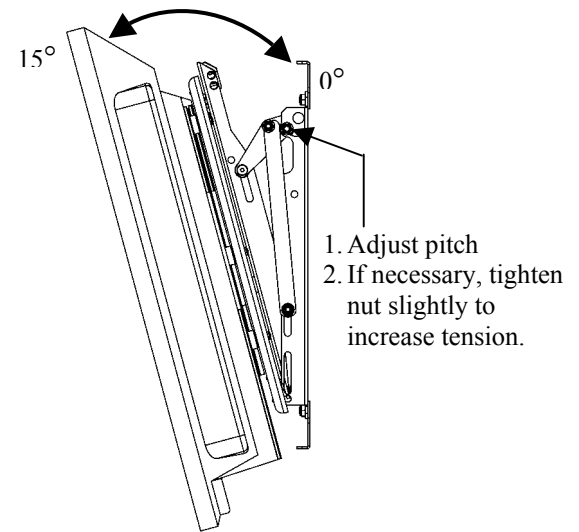

Figure 10. Tilt Display Down
2. If desired, tighten the nut (see Figure 10) to increase the amount of tension needed to hold the mount in the position set in Step 1.